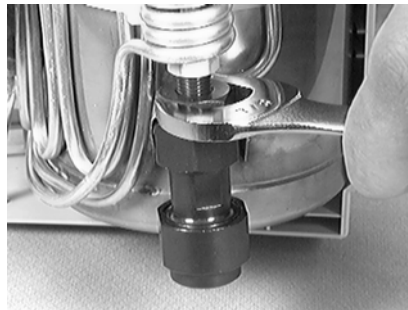

Figure 5-20
3. Use a $\frac{7}{8}$ -in. open-end wrench to loosen the jam nut **5** (earlier models may have a $\frac{5}{8}$ -in. jam nut) that holds the female adapter to the mounting bracket. Pull the fill connector assembly **1** down slightly to clear the fill tube **8** and then slide it out of the mounting bracket (Figure 5-20).